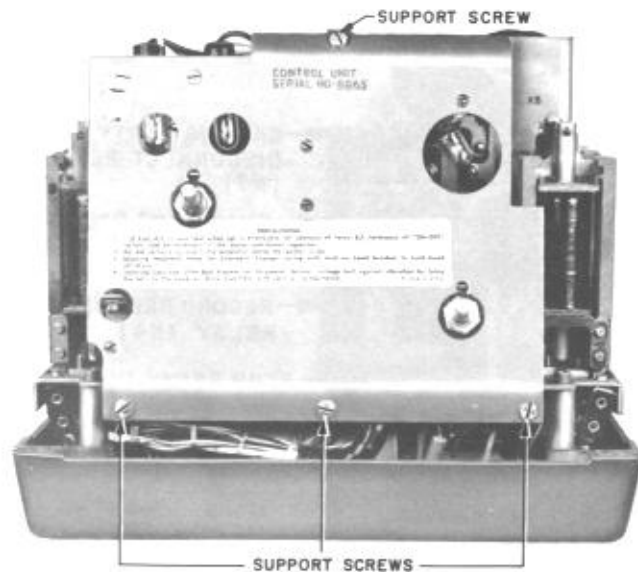

Fig. 7 — Control Panel Support Screws
- 1.11 The control panel is held in place by four captive screws in front of set (Fig. 7).